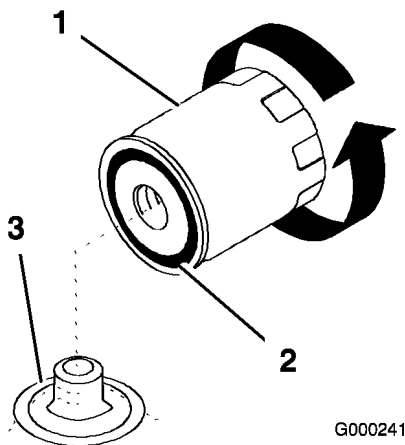

Figure 23
2. Remove the old filter and wipe the filter adapter (Figure 23) gasket surface.
3. Apply a thin coat of new oil to the rubber gasket on the replacement filter (Figure 23).
4. Install the replacement oil filter to the filter adapter. Turn the oil filter clockwise until the rubber gasket contacts the filter adapter, then tighten the filter an additional 1/2 turn (Figure 23).